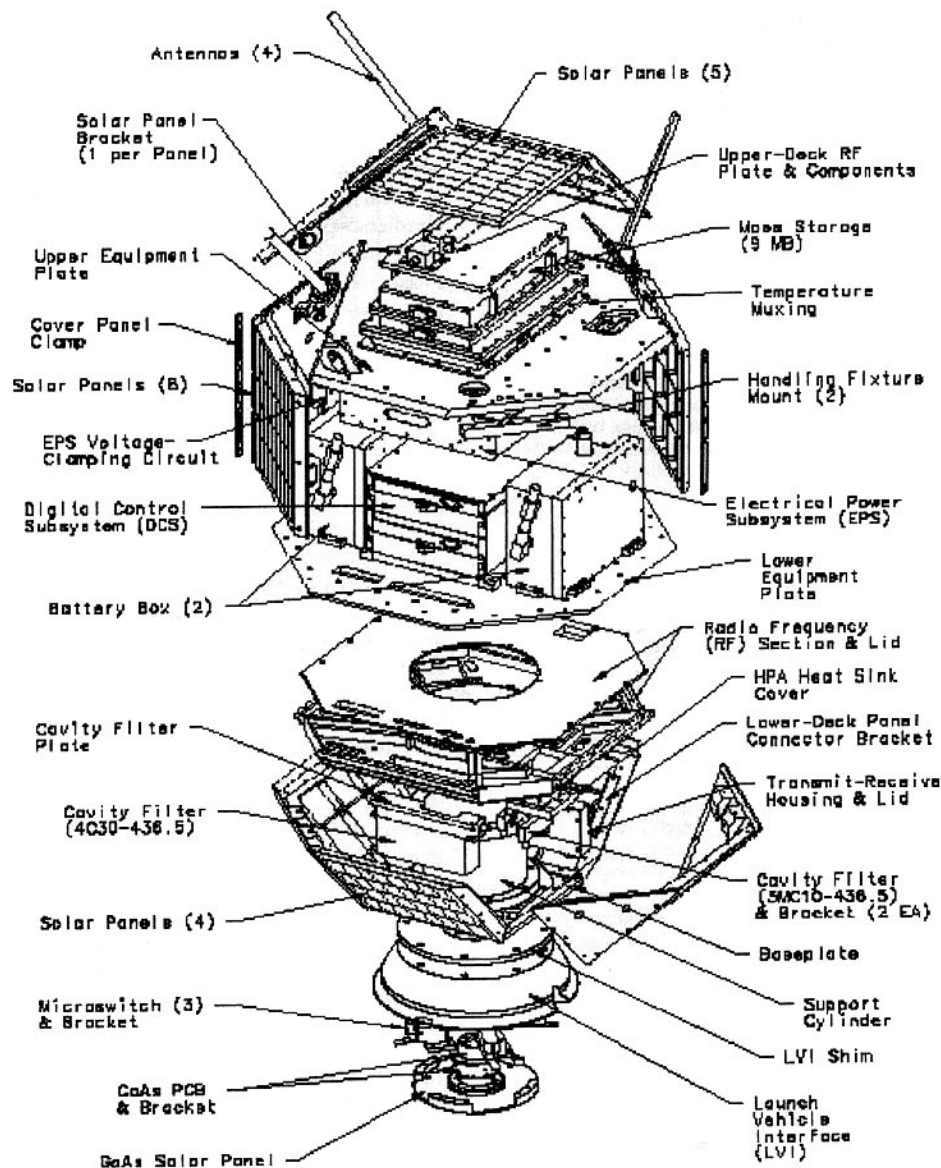
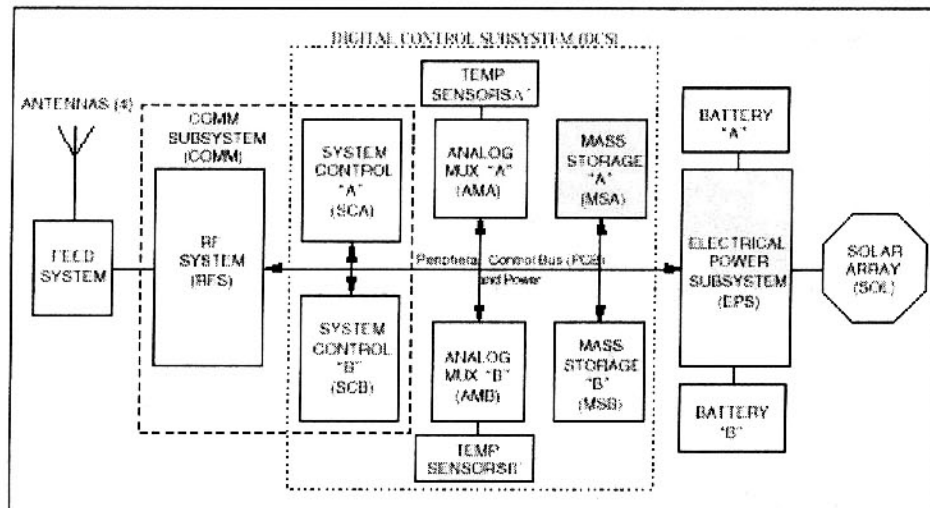

Figure 1. An expanded view of PANSAT.
Figure 2. PANSAT system block diagram.
PANSAT has a robust structural design with high margins of safety and is adaptable to a number of launch vehicles. The satellite is approximately 19 inches in diameter and has no attitude control or propulsion. Eighteen square and eight triangular aluminum panels make up the outer surface of the satellite. Seventeen of the square panels are equipped with silicon solar panels and one gallium-arsenide panel is attached at the bottom of the launch vehicle interface (LVI). Four dipole antennas are attached in a tangential turnstile configuration to the triangular plates on the upper section. The spacecraft interior structure is composed of two equipment plates and a cylindrical support. Figure 1 shows an expanded view of PANSAT. The structure design consists of an aluminum housing and equipment plates in an approximately spherical configuration. The main load-bearing structure is a thin-shell cylinder supporting the lower equipment plate and attached at the baseplate where the interface occurs. PANSAT used a NASA standard ejection mechanism for hitchhiker payloads to deploy the spacecraft. The three main spacecraft subsystems are: communication (COMM), electrical power (EPS), and digital control (DCS). Figure 2 shows a system block diagram of PANSAT subsystems.
frequency in the Amateur Radio 70 cm band. The pseudo-noise (PN) code sequence, in accordance with present rules and regulations, is implemented using a seven-bit shift register with taps at 7 and 1. The PN code is mixed with the data stream at a rate of 1 sequence length per bit of information, or 127 chips per bit. The spread signal is then modulated using binary-phase-shift-keying (BPSK) and up-converted to the transmitted carrier with 2.5 MHz of bandwidth. The spacecraft transmitter is capable of varying the output power to allow only the minimum required energy for successful reception. The spread spectrum receiver provides signal detection, tracking, and demodulation for recovery of the digital bit stream. The communication payload passes the data stream to a serial communication controller (SCC) for de-packetizing and error-checking of the CRC (cyclical redundancy check). The recovered data is then delivered to the spacecraft microprocessor. Both the modem and processor boards are located in the DCS System Controller (see Figure 2). The receiver is capable of receiving a carrier of at least -120 dBm signal strength. Link analysis shows the required transmit effective isotropic radiated power (EIRP) of the satellite to be 0.756 W and the ground station 2.65 W. The analysis assumed a Shuttle orbit altitude of 390 km and probability-of-bit-error of 10^{-5} or less. The satellite transmitter is designed to provide at least 2.0 W, and be able to step down to the minimal power required for acceptable probability-of-error, and should compensate